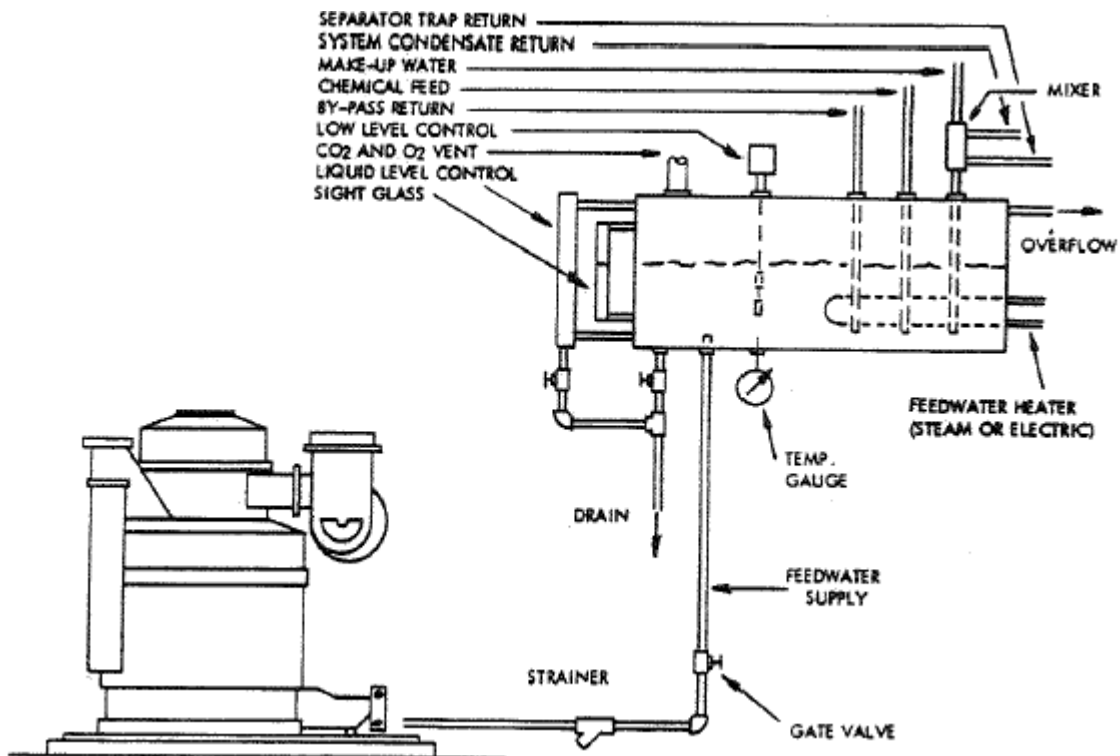

Figure 7, Water Tank Installation (See Page 35)
9.1.4 It is not good practice to connect the boiler feed pump directly to a water main. The pump inlet should be connected to a feedwater supply (or make-up) tank which will serve as a reservoir for the softened make-up water, system return condensate, boiler steam separator trap return condensate, boiler feedwater pump bypass water return, and after treatment chemicals. Figure 7 illustrates a typical water tank installation.